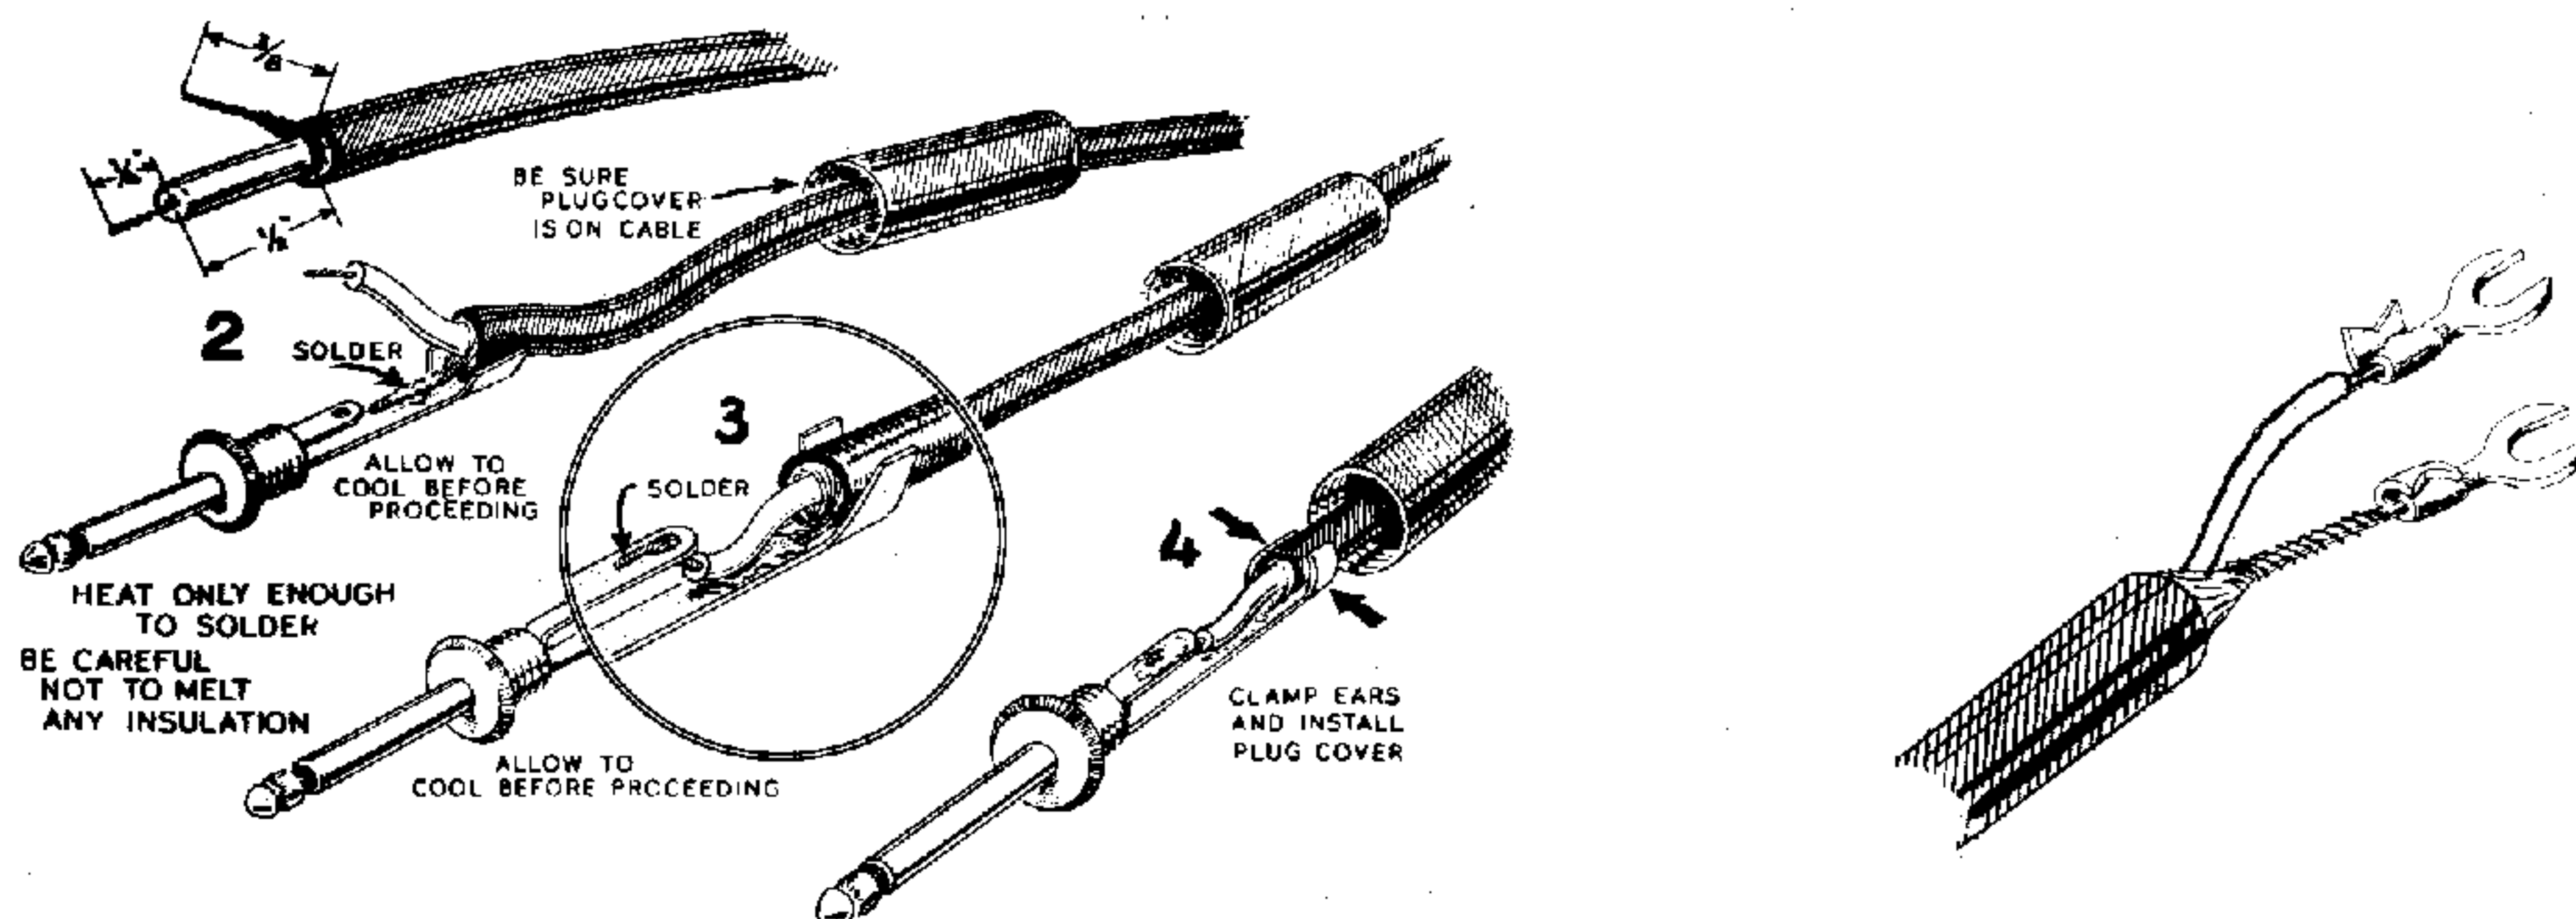

Figure 18
- () Locate the length of single conductor shielded wire. Referring to Figure 18, strip the outer jacket off one end for a distance of 1", unwind the shield wire, twist and tin. Strip and tin 3/8" of the center conductor. Now solder a terminal spade lug on each tinned lead. On the other end of the shielded wire, place a phone jack as shown.